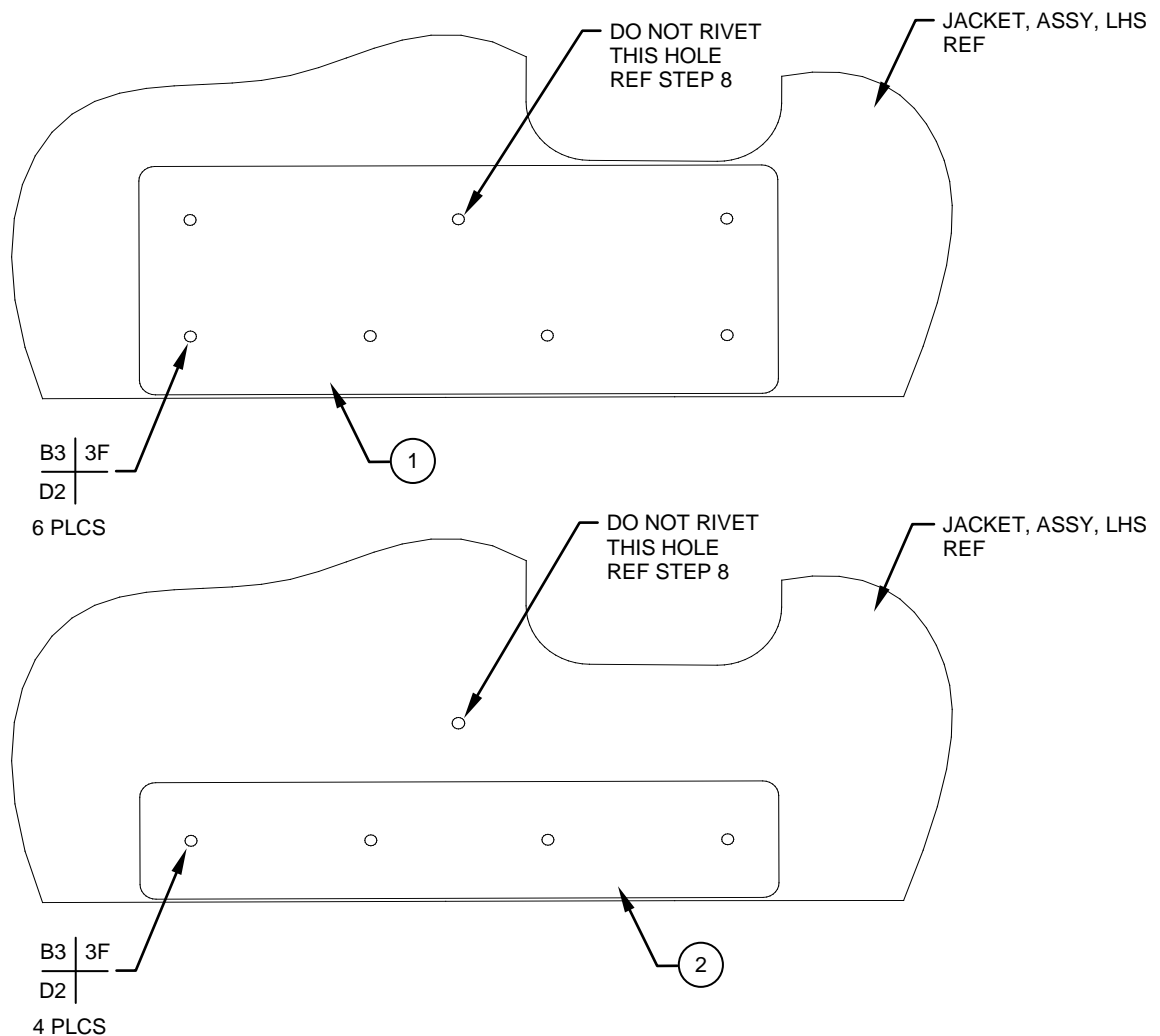

Figure 3
- If applicable, install the new Wear Strip, Detail (Item 1 or 2 as applicable) and rivet in position as shown. Reference Figure 3.